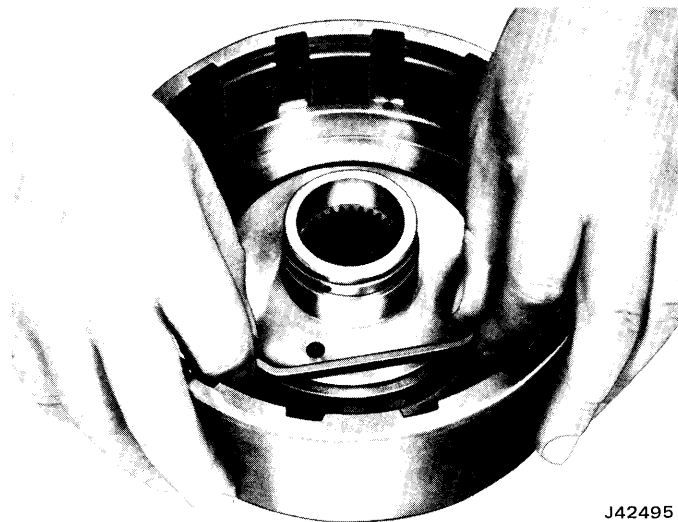

Fig. 7-71 Installing Forward Clutch Housing Center Piston Seal
(10) Remove center piston seal from forward clutch housing (fig. 7-71).
(2) Install center seal in clutch housing with lip facing upward (fig. 7-71).